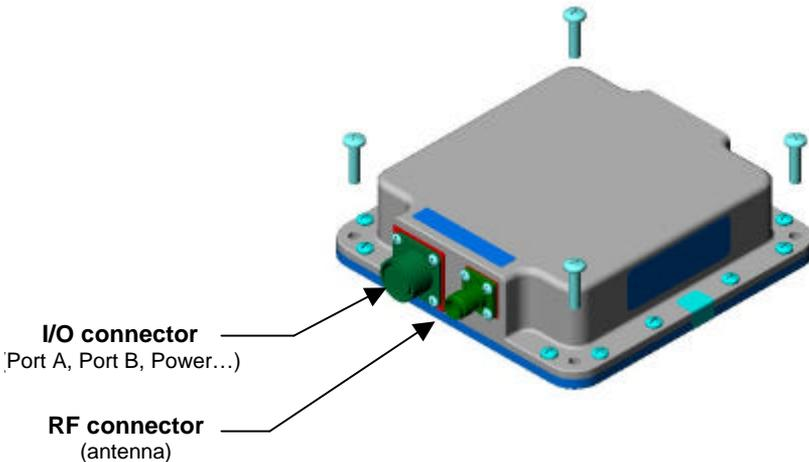

Figure 1-1, SLX connectors
The SLX receivers are alike in the fact that they each have one antenna connector (RF) and one I/O connector (port A, port B and power). While the SLX-300 looks different in appearance, it has the same connectors as the SLXg shown in Figure 1-1: